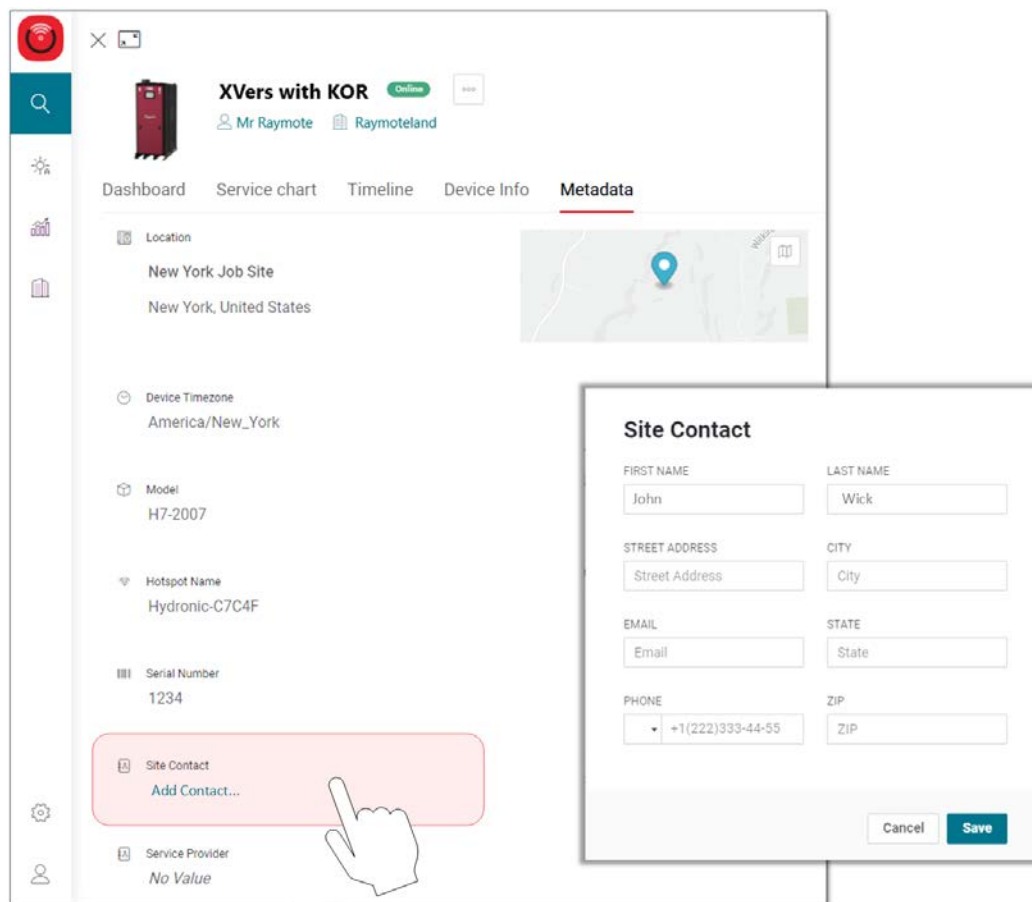

Figure 58. Select Metadata
1. Select “Metadata” from the top menu. See **Figure 58**.